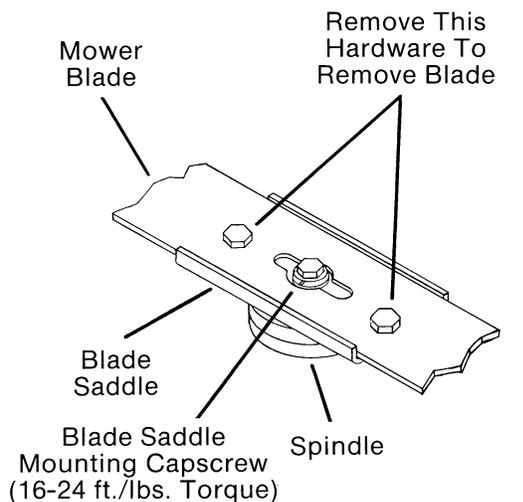

FIG. 9
- a. Remove two capscrews, lockwashers and hex nuts that secure each blade to spindle assembly. (Fig. 9) Remove blades from spindles.
IMPORTANT: Check also at this time the tightness of the blade saddle mounting cap-screw (Fig. 9) (16-24 ft./lb. torque).